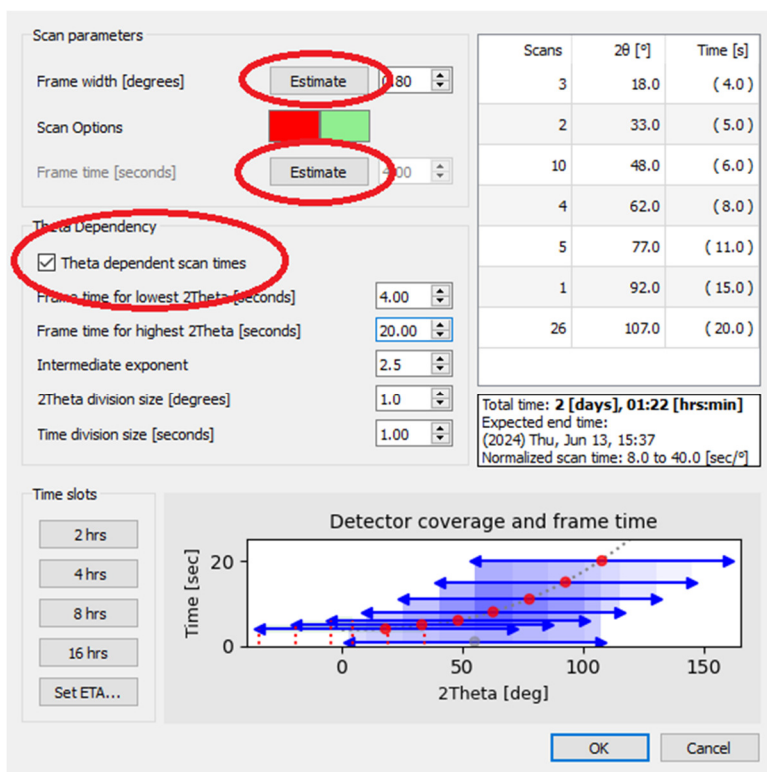

Figure 20, Strategy Scan Parameters sub-window
- The Scan Parameters box will now be populated. Click the Select Scan Parameters button. In the popup window, click the two Estimate buttons for “Frame width” and “Frame time” to obtain suggested values (Fig. 20).